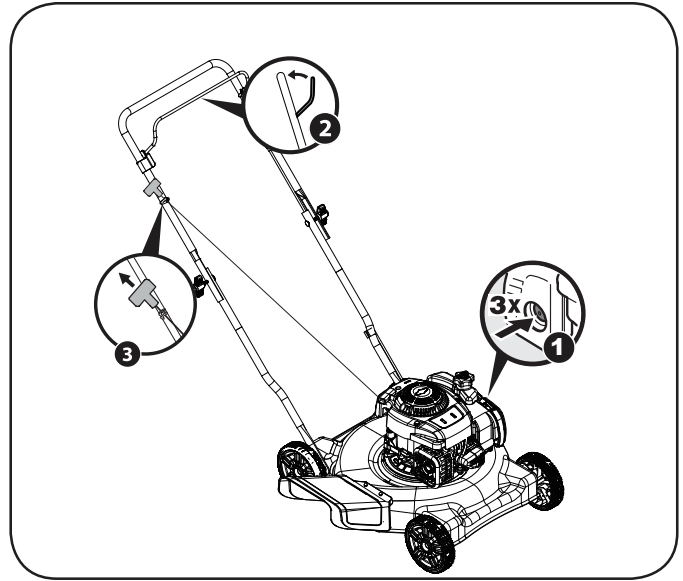

Figure 8
3. While holding the blade control against the upper handle, keep a firm grip on the starter handle and pull rope out with a rapid, continuous, full arm stroke. Repeat until engine starts. Let the rope rewind each time slowly (Figure 8).